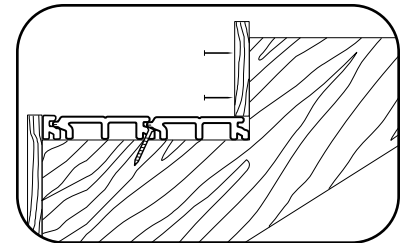

Fig. 20
- To create the next step, place the riser board directly on top of the last stair tread plank installed for the previous step (Fig. 20).